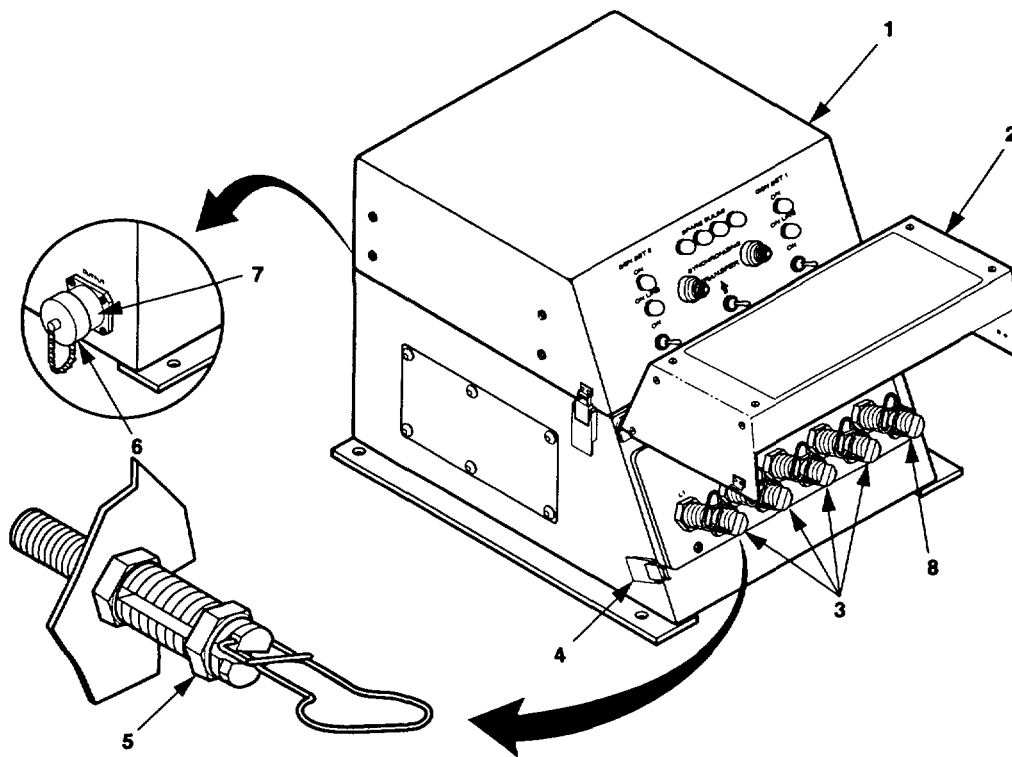

Figure 2-9. Switch Box Load Cable Connections.
2-3.4.1 Power Plant. Load cables and instructions for connecting them are normally furnished with the equipment that is to be supplied with electric power. The load may be connected to the switch box (1, figure 2-9) by either of two arrangements. One way is to connect a load cable to the switch box output connector (7). The other way is to connect load cables to the switch box load terminals (3). Before connecting the load, determine voltage requirements of the system or equipment that is to receive electric power.
- a. Remove cap (6, figure 2-9) from output connector (7).
- b. Connect load cable to output connector (7).
- a. Release both clamping catches (4, figure 2-9) and raise load terminal cover (2).